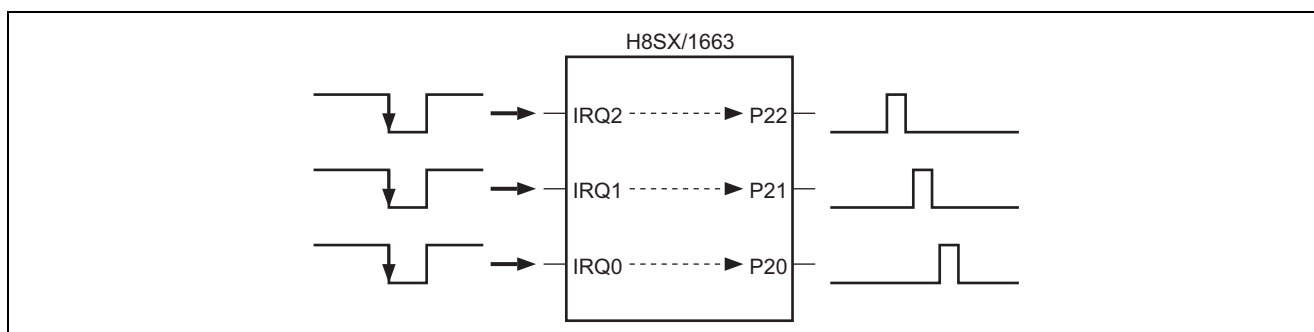

Figure 1 Confirmation of Interrupt Controller Operation
1. As shown in figure 1, when the processing of IRQ2 to IRQ0 interrupts is initiated, high-level trigger pulses are output on the respective pins from P22 to P20.